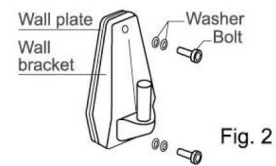

Fig. 2
- 2-1 The wall plate and wall bracket are attached together with bolts before the factory delivers the machine.(Fig.2)